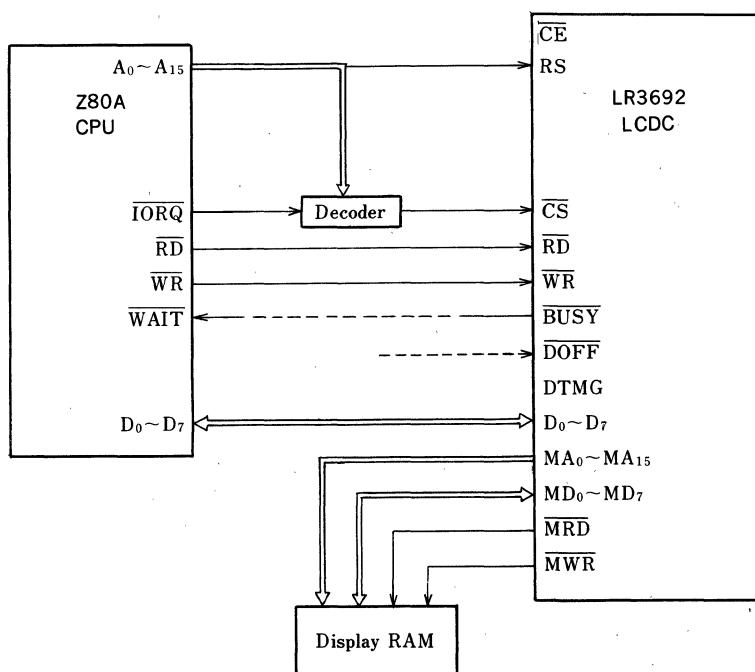

Fig. 1 Interface with CPU(I/O mode)
As shown in Figs. 1 and 2, the LR3692 (LCDC) is connected to the standard bus of the Z80-type CPU, using it as a means of transferring data and commands.
① I/O mode A sample system configuration for I/O mode access is shown in Fig. 1. A value for 0C_H is first set into the command register. If the BUSY is high, CS is low, and RS is low, the RD, WR, and D₀-D₇ lines are linked to the MRD, MWR, and MD₀-MD₇ lines, respectively. At this time the value of the Cursor Address register is output at the MA₀-MA₁₅ pins. The Cursor Address register is incremented at the rising edge of the RD or WR signal. The BUSY line is set to high during the fly-back period in which the LCDC does not access the display RAM. Setting the DOFF to low causes the BUSY to be set to high, making the display RAM accessible at any timing. At this time, the LCD display is turned off.